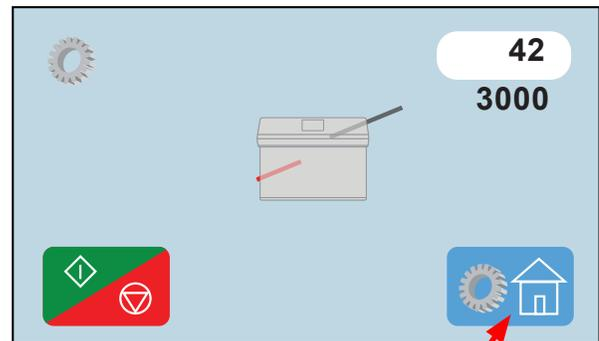

Fig. 55b
2. Press the Start/Stop icon  the fold stop will move to the highest position and a number will appear in the white box (Fig. 55b). Press the Start/Stop icon again to move the fold stop to the lowest position. A new number will appear in the white box for the lower position. Run the test a couple more times if the numbers remain within 1 to 2 of the original numbers the fold table is working properly.